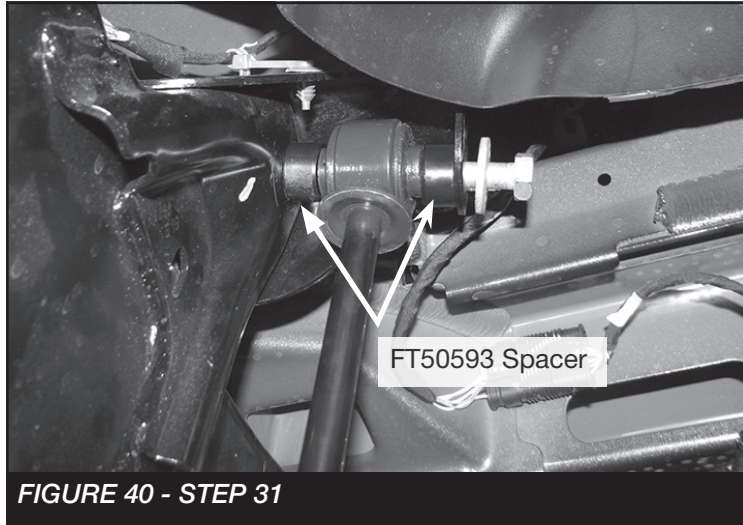

FIGURE 40 - STEP 31
32. Install FTS6352 (Stealth shocks) using the factory hardware. **NOTE: Install the supplied FT50593 (Spacers) at the upper mount on either side of the shock sleeve.** Torque to 100 ft-lbs. **SEE FIGURE 40**